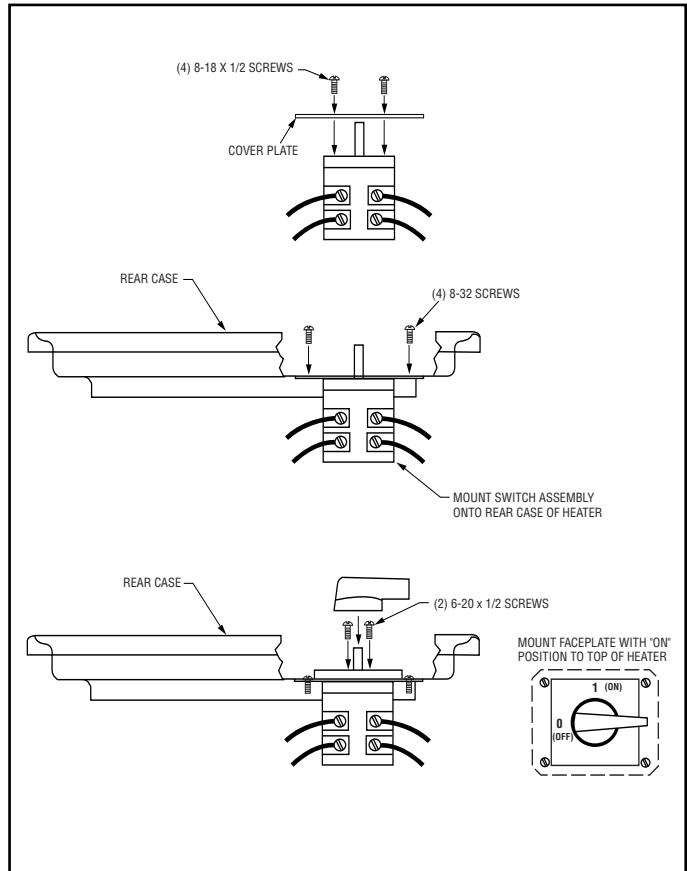

Figure 6 – EDS-1
6. Insert the four self tapping screws into the four holes in the rear panel. They should engage the holes in the mounting plate and then be tightened until they are secure (see Figure 6).